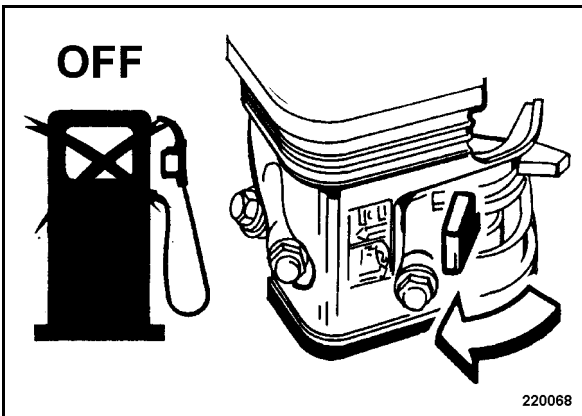

Fig. 24
- Close the fuel tap (Fig. 24) by turning in direction of arrow.